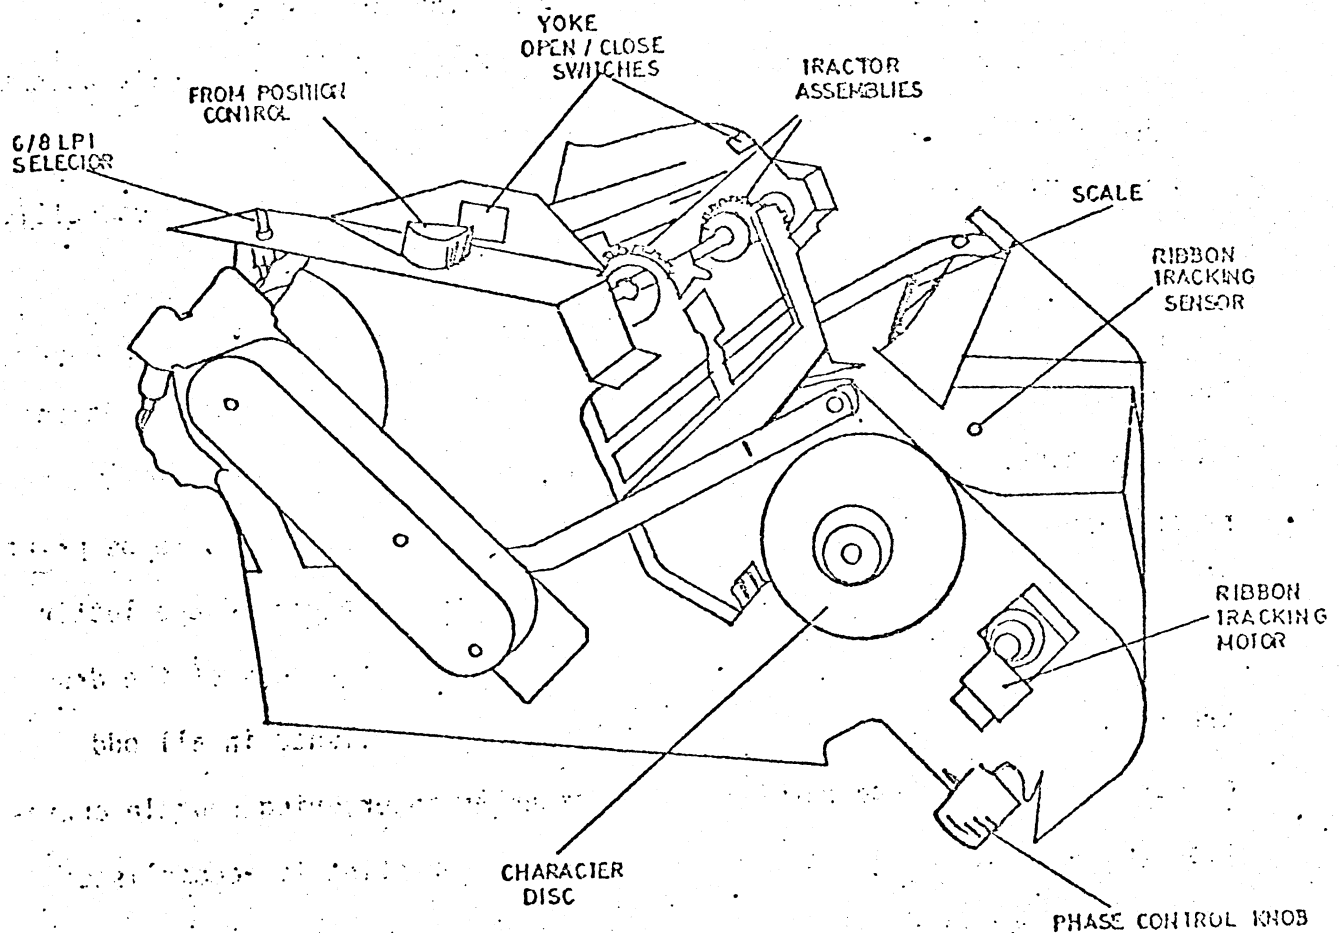

Figure 1-7 Printhead (Open)
- k. Lay the plastic scale (which should be leaning against the yoke) onto the paper. (Figure 1-7)